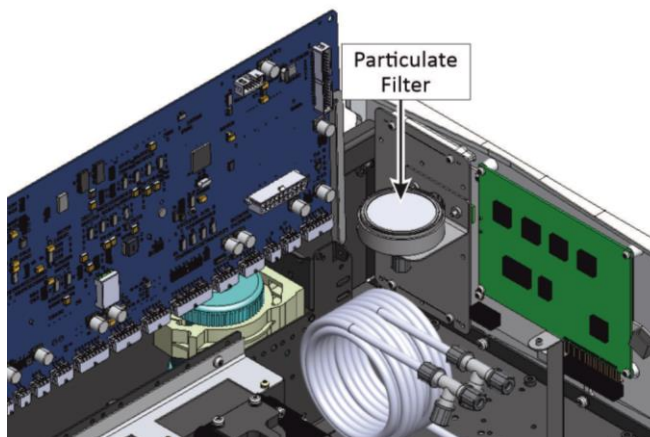

Figure 129 – Particulate Filter
6. Refer to Figure 129. Remove the old particulate filter.